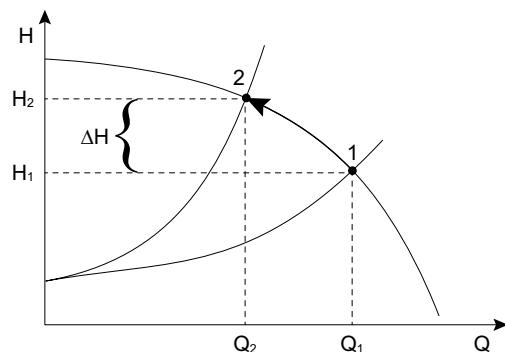

Fig. 7.3.2e Throttling discharge line
The connection between Capacity (Q) and Head (H) when throttling is shown in Fig. 7.3.2e.